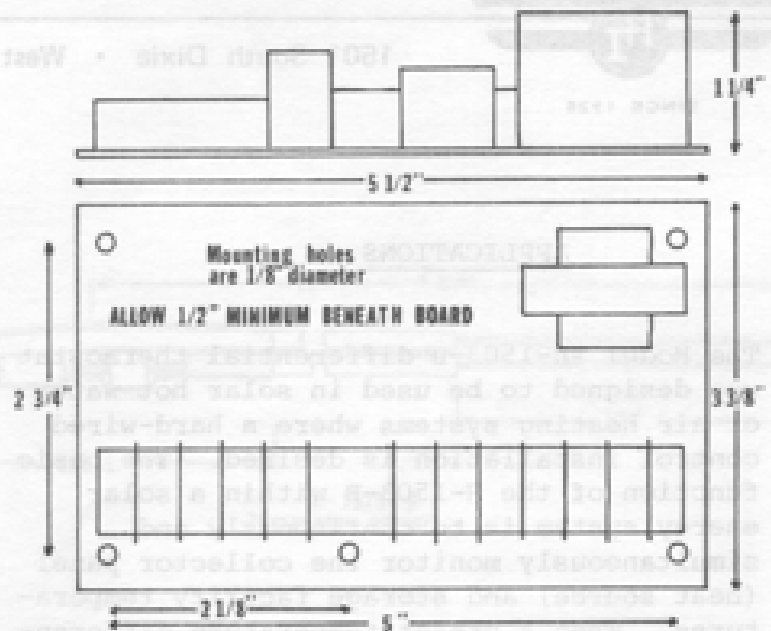

FIGURE 1
1. Mount control on standoffs spaced as per spacing and dimensions diagram Figure 1. Care must be taken to allow sufficient clearance above and below the circuit board.